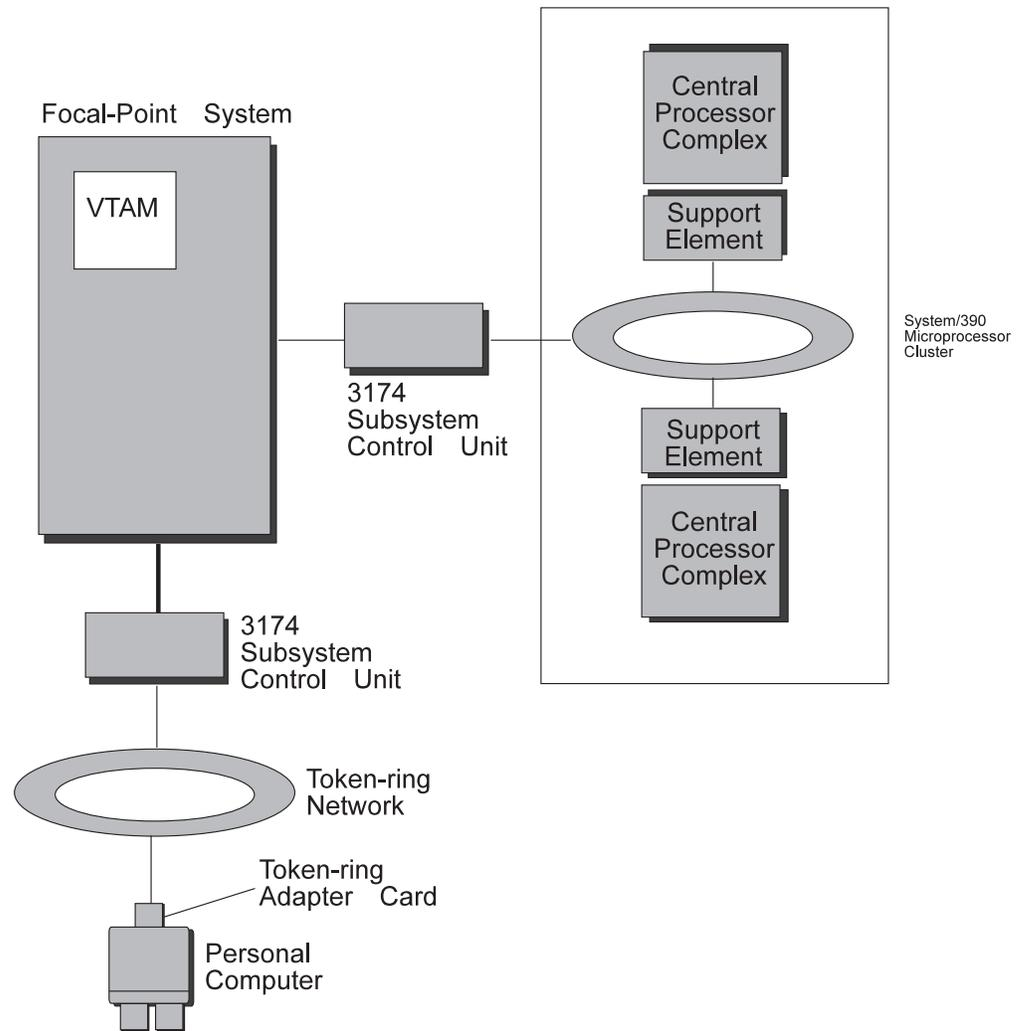

Figure 20. Focal Point System Connections to a Token-Ring Network through a 3174
**Possible Token-Ring Configurations:** Figure 20 on page 69 shows two focal point system connections through a 3174 subsystem control unit: